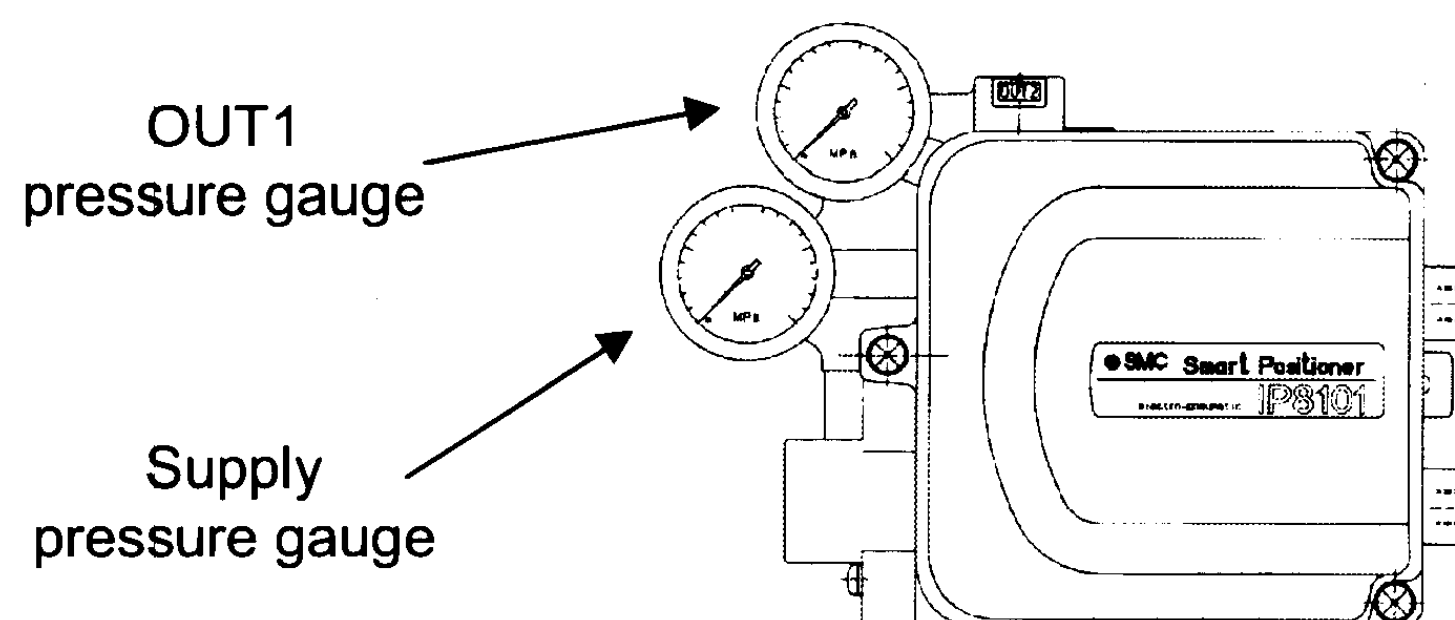

Fig. 6
*5: A Description of pressure gauges mounted on the positioner are as shown in Fig. 6.
*6: Auto and manual mode can be switched by rotating the pilot valve unit auto/manual switch screw to the manual (M) side as shown in Fig. 6. A small stopper screw in the top is to prevent loosening and must not be tampered with or loosened. Also, a sensitivity holding screw is set prior to factory shipment and must not be accidentally rotated.